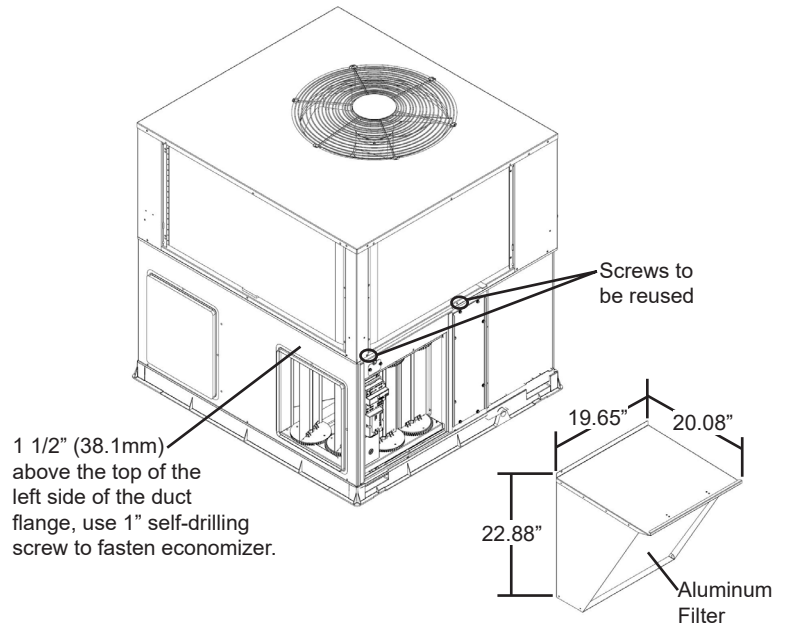

Fig. 6 - Economizer Installed in HVAC Unit
11. At a location 1 1/2 in. (38.1mm) above the top of the left side of the return duct opening use 1" self drilling to screw thru unit back panel and into the top rear corner of economizer assembly (Fig. 6).
13. Caulk or gasket the back side of the hood mating flanges. Install assembled hood over the economizer opening in the replacement return chamber panel. Screw in place through pre-punched holes. See Fig. 6. Make sure all seams are watertight.